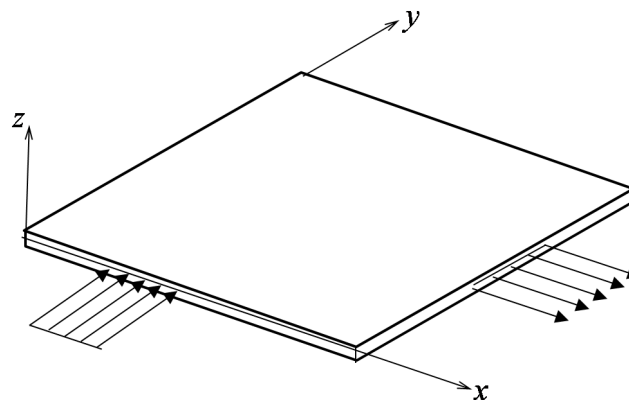

Figure 2
- (b) **Figure 2** shows a thin plate structure subjected to in-plane (x - y plane) loads on the boundary. The thin plate is also subjected to in-plane body force $R_x(x,y)$ and $R_y(x,y)$ in x and y direction, respectively.
- (i) Using a diagram of an infinitesimal volume taken from the interior of the thin plate in **Figure 2**, show clearly the non-zero stress components.